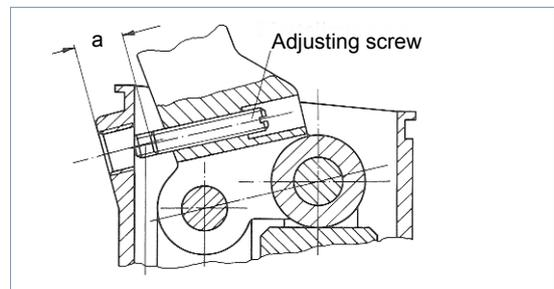

Fig. 7 Dimension a for the adjustment of the adjusting screw
- Adjust adjusting screw for the pressure switch to dimension a 12 + 0.5 mm (see fig. 7).